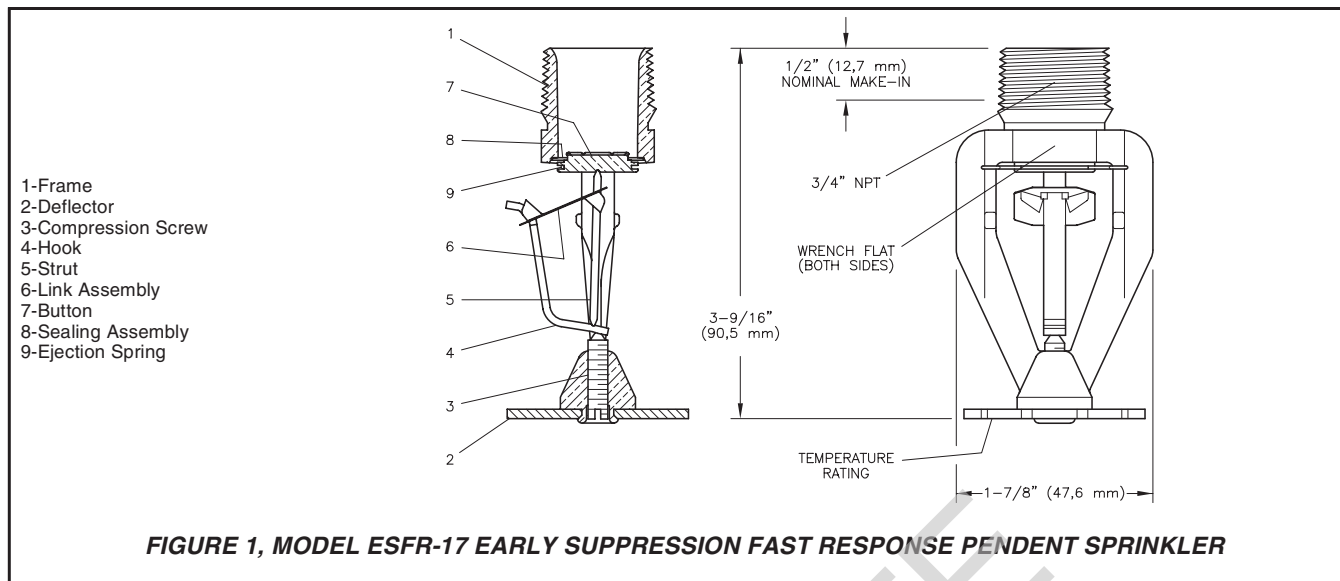

FIGURE 1, MODEL ESFR-17 EARLY SUPPRESSION FAST RESPONSE PENDENT SPRINKLER
The Model ESFR-17 Sprinklers (Ref. Figure 1) are "Early Suppression Fast Response Sprinklers" having a nominal K-factor of 16.8. They are suppression mode sprinklers, and they are especially advantageous as a means of eliminating in-rack sprinklers, when protecting rack storage.
Step 4. After installation, inspect the Link Assembly of each ESFR-17 Sprinkler for damage. In particular, verify that the Link Assembly and Hook are positioned as illustrated in Figure 1, and that the Link Assembly has not been bent, creased, or forced out of its normal position in any way.